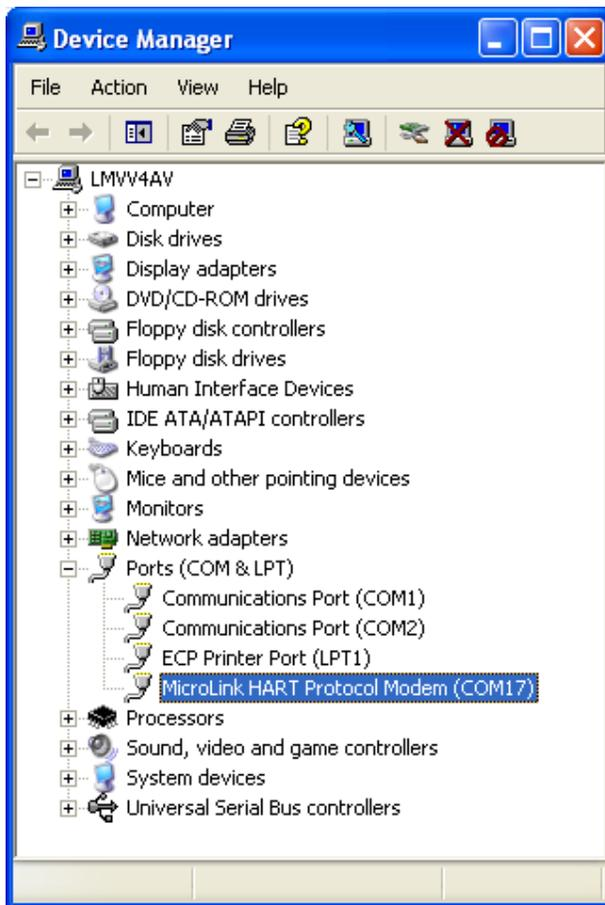

Figure 8: Finding the HART modem port
- d. Check which port the modem is installed on (see Figure 8: Finding the HART modem port). You will need this port number when starting the DTM in the FDT frame.
- b. If using a USB HART modem, you need to make sure that the COM port the Communication DTM is the same as it is connected to on your computer. Often this is by default set to port 1. However, port 1 is for serial communication (serial HART modems), and if you are using a USB modem you will have to investigate which port it is connected to and then select this port. Please see *Figure 8: Finding the HART modem port* for this procedure.